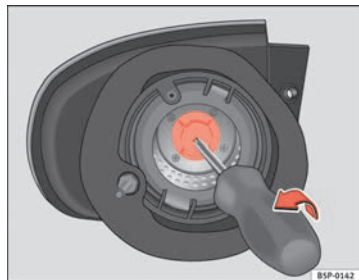

Fig. 195 Indicator lights.
- Pull out the indicator lamp holder using a screw driver in the direction of the arrow ⇒ fig. 195.